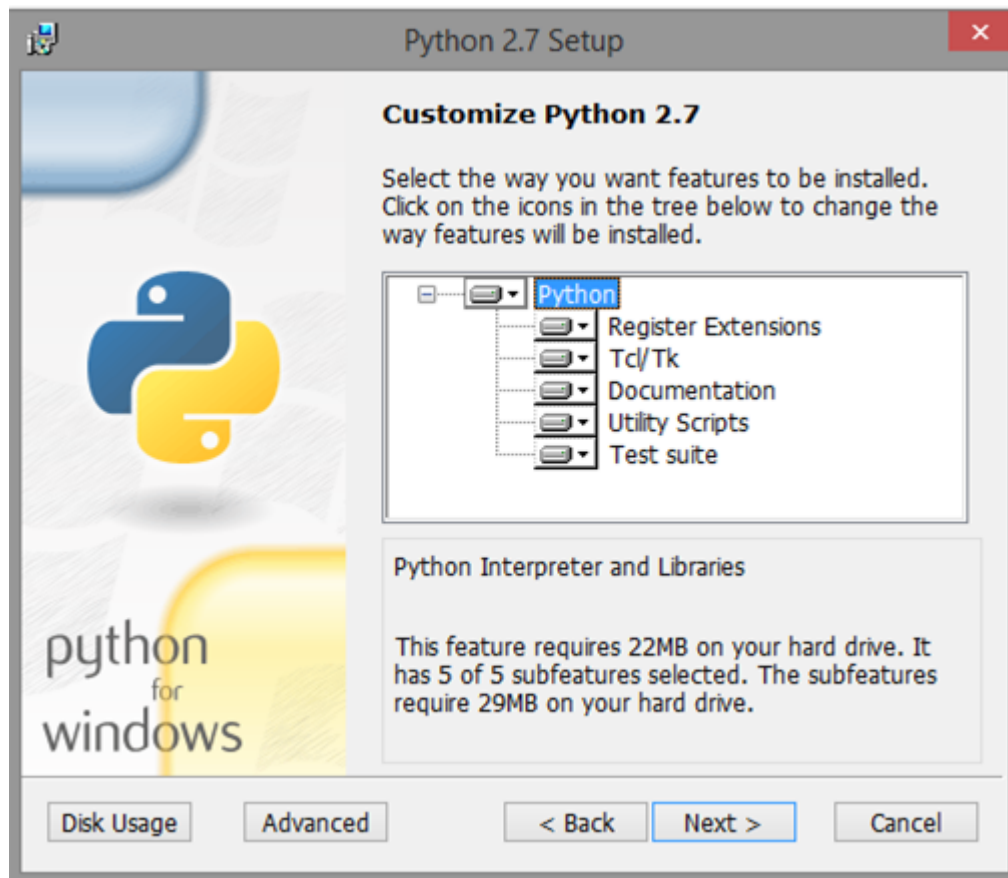

Figure 1-11. Python Customization
8. A dialog as shown in Figure 1-11 appears. Click **Next >** button from the dialog.